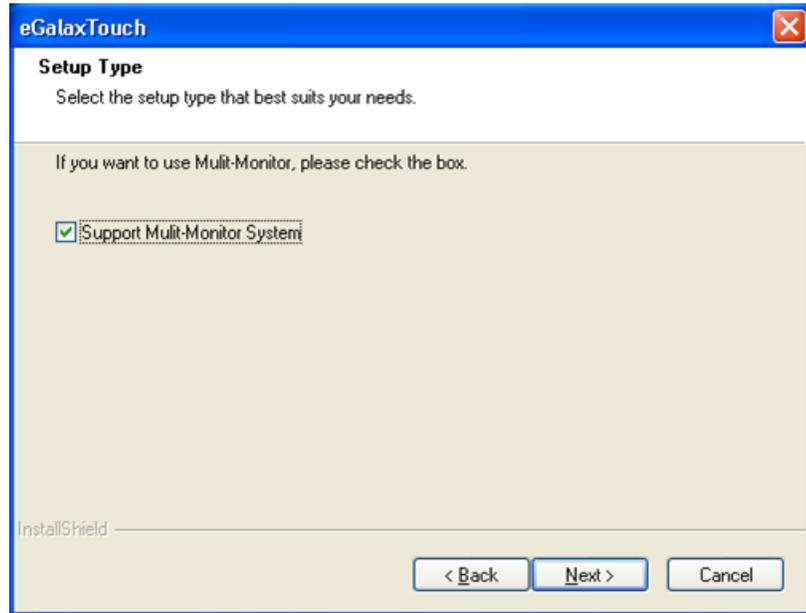

Figure 3-7 Multi-Monitor Screen
12. In the next screen that appears, select the **Support Multi-Monitor System** checkbox and click **Next** (Figure 3-7).